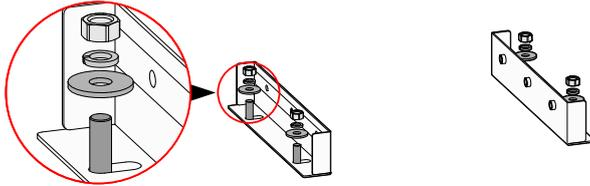

Figure3-13 Fasten the supporting plate
- Step 4 Fasten the supporting plate. Put the supporting plate on the ground where has been drill the expansion bolts. Install the flat gasket( $\Phi 10$ ), spring gasket( $\Phi 10$ ) and bolts( $\Phi 10$ ), then pre-screw the bolts, as shown in Figure3-13.